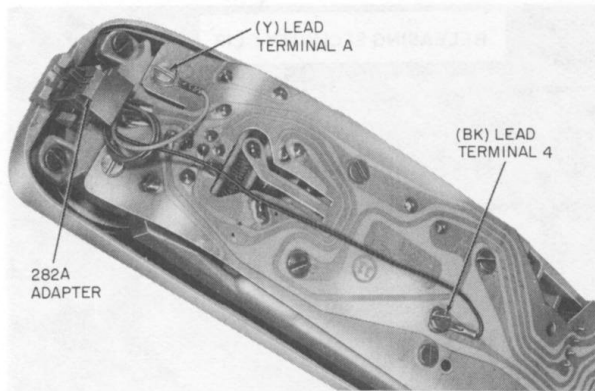

Fig. 5—282A Adapter (P/O D-180825 Kit of Parts) Installed in Hand Telephone Set
- (1) Open handset by removing the shell from the handset (3.11).
- (2) Install the 282A adapter onto the existing handset cord jack (Fig. 5).
- (3) Connect the (Y) and (BK) spade-tipped leads of the adapter to terminals A and 4, respectively, of the network (Fig. 5).
- (4) Reassemble shell to hand telephone set.